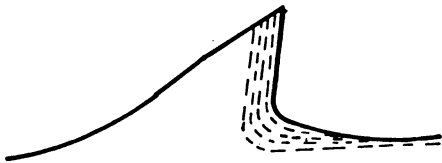
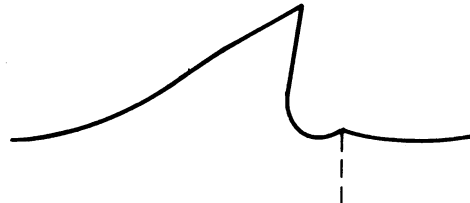

FIGURE 13
FIGURE 14
7. As you sharpen a blade and the face of the teeth recede, the tooth height (tip down to gullet) will get shorter. For this reason, it is recommended that from the second sharpening on, you start grinding into the gullet. A good rule of thumb is to grind as much out of the gullet as you grind off the face of the tooth (See Figure 13). When grinding into the gullet, be sure to maintain a smooth radius into the gullet. An inconsistent gullet (See Figure 14) can cause premature blade breakage. Subsequent sharpenings will require a larger amount of the gullet to be ground, until you get to approximately the fourth sharpening. At that time, it will be necessary to gum across the entire gullet (explained later). A tooth height of not less than 3/16" is recommended.